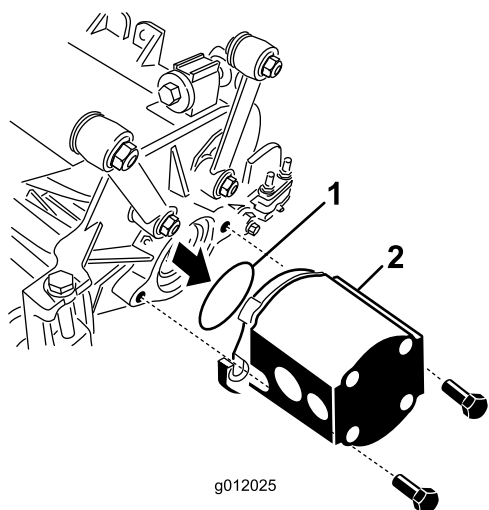

Figure 25
5. Insert the O-ring (supplied with the cutting unit) on the flange of the drive motor (Figure 25).
6. Mount the motor to the drive end of the cutting unit, and secure it with 2 capscrews provided with cutting unit (Figure 25).